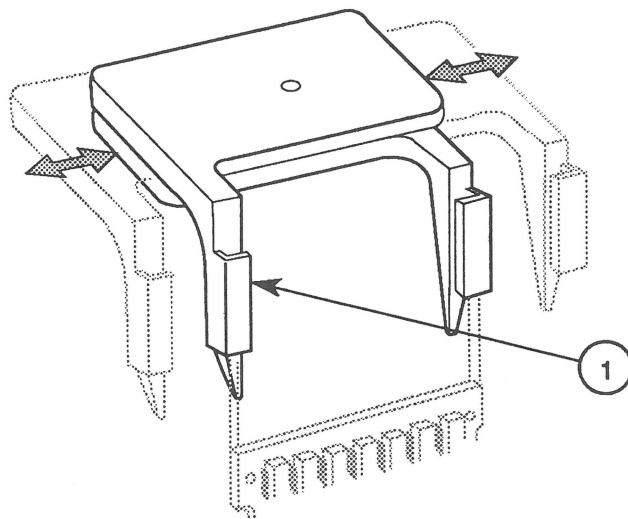

FIGURE 1
2. Adjust the tool from side to side (Figure 1) until the grooves (Figure 1, #1) fit over the edges of the SIMM board you are going to remove, and tighten the screw.